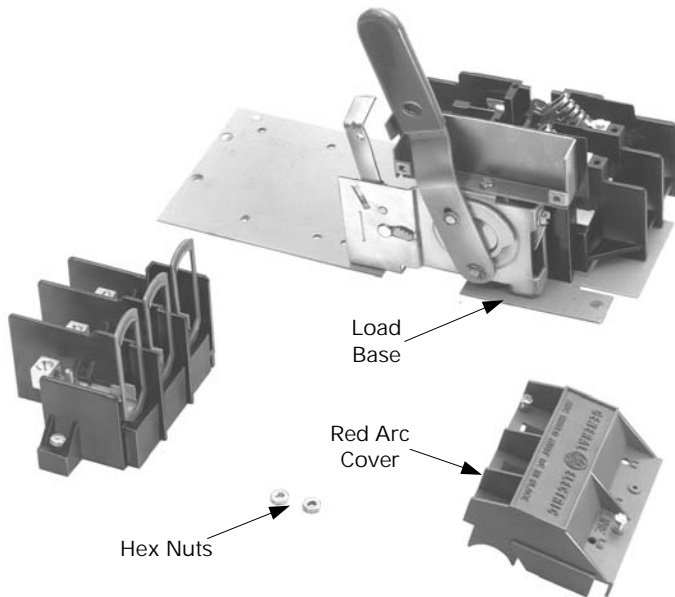

Figure 4. Removing the hex nuts from the switch.
4. **Prepare the switch.** Remove and save the hex nuts from the studs, the red arc cover, and the load base on the expansion switch, as shown in Figure 4.